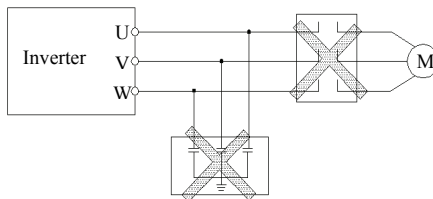

Fig.3-5 Forbid to use contactor and absorbing capacitor
- (1) Assure power be cut off completely for above 10 minutes before wiring, Otherwise there is danger of getting electric shock.
- (2) Forbid connecting power wire to output U, V, W of the inverter.
- (3) If there is current leakage inside inverter, Inverter and motor must be earth grounding for safety assurance, Please refer to clause 7 in Chapter 3.4.1 for grounding wiring.
- (4) Before shipment compression resistance test of the inverter is Passed, sousers should not conduct compression resistance test again.
- (5) Do not add absorbing capacitor or other resistance-capacitor absorbing device between inverter and motor; also do not add electromagnetic contact. If contactor and other switch component needed to add, please make sure inverter suspended without output, Show as Fig.3-5.
- (6) To provide inverter over-current protection in output side and convenient maintenance under power off, it should be connected to power source through air switch and contactor.
- (7) Control signal wire should select multicore stranded wire or shielding wire. One end of the shielding layer hang in the air, and the other end connect to inverter earth grounding terminal, connection wire shorter than 20m.